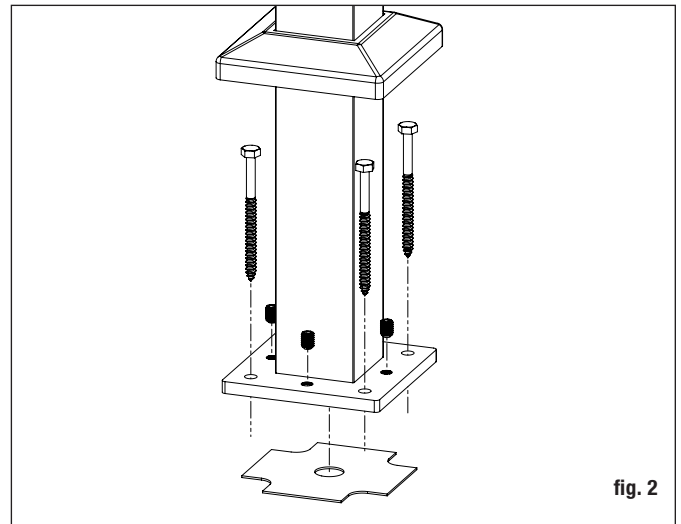

fig. 2
Step 1 Install posts by attaching the aluminum base to the surface of the deck. Position the post so the fastener will go into the floor joist, and make sure the decking is firmly attached to the joist at the location of the posts. If necessary, use wood blocking securely attached to the joist structure as reinforcement underneath the decking where the posts are located. Fasteners that hold the post base to the surface should be able to secure to joist or reinforcement braces, not just the decking itself. *Note: When installing aluminum post on top of a wood surface, screws must be lagged into at least 3" of solid wood (not including the decking). 5/4" or 1 1/2" deck boards do not provide sufficient material for a safe installation. If necessary, add additional material to the underside of the surface (fig. 2).*